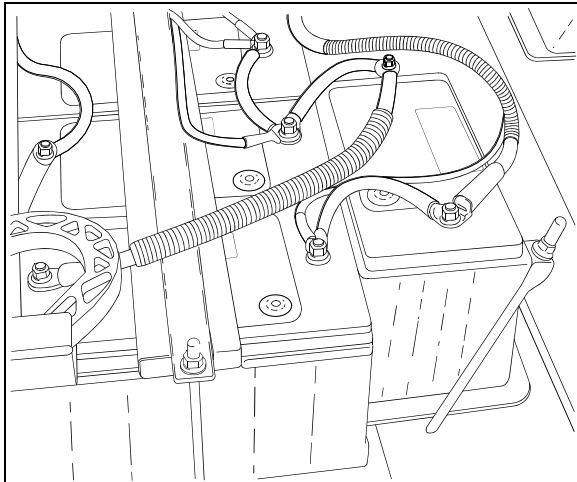

FIGURE 11: BATTERIES
The vehicle is provided with four (4) maintenance-free 12-volt heavy-duty batteries connected in series-parallel (fig.11 & 12). The top-mounted negative and positive terminals are tightly sealed to prevent leaks. Water never needs to be added to this type of battery. There are no filler caps in the cover. The battery is sealed, except for small vent holes in the cover. The vents must not be restricted as they allow small amounts of gases produced in the battery to escape. The special chemical composition inside the battery reduces gassing to a very small amount at normal charging voltages. Besides reducing gassing, the special chemistry greatly reduces the possibility of overcharge damage.